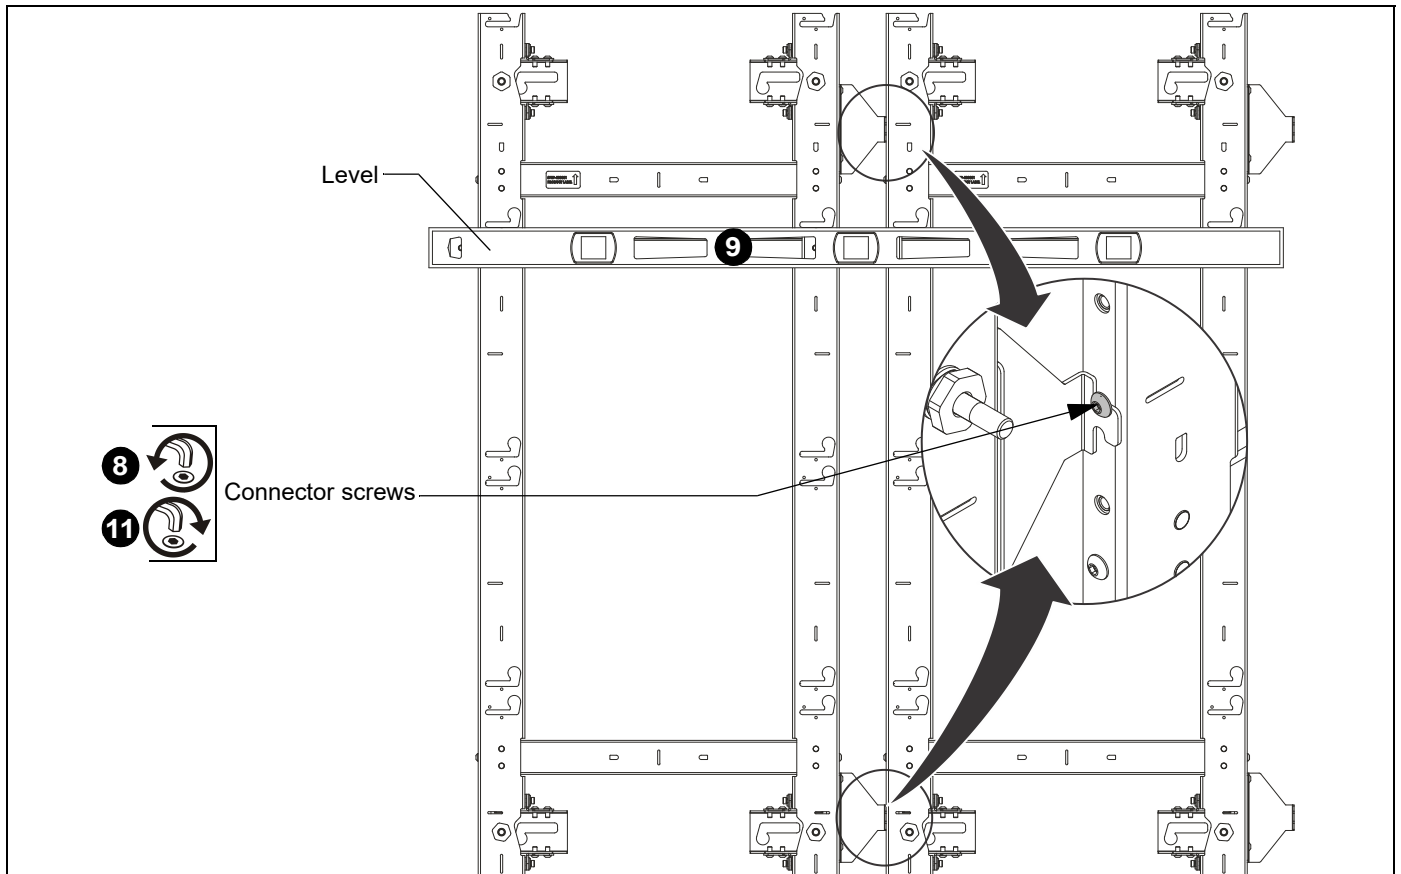

Figure 16
7. Slide the left (H) and right adjustment washers (J) into place behind the partially installed lag screws.
8. Loosen the side connector screws, upper and lower, prior to adjusting the mount height. (See Figure 16)
9. Place a level across front of the mount at bottom of teardrop slots and check that mounts are level and in line with each other. (See Figure 16)
11. Re-tighten connector screws, upper and lower. (See Figure 16)